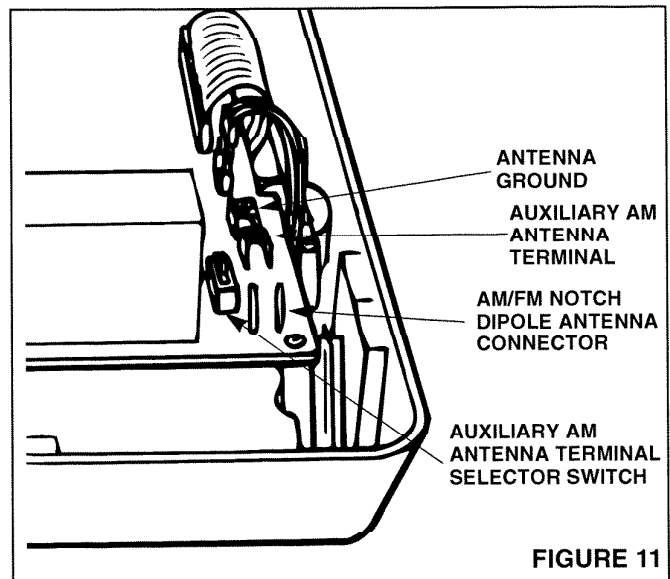

FIGURE 11
1. Refer to Figure 11. Move the auxiliary AM antenna selector switch to the AM position.